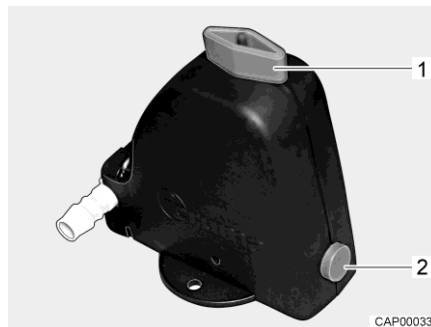

Fig. 189 Safety/drainage valve (Truma)
- Open the safety/drainage valve (Truma). To do this turn the knob (Fig. 189,1) parallel to the safety/drainage valve. The push button (Fig. 189,2) jumps out.